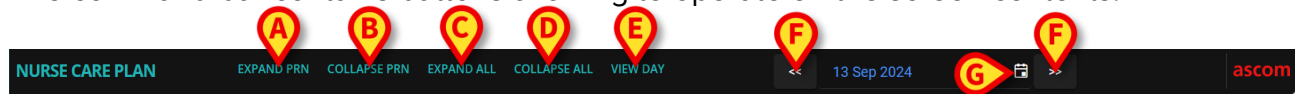
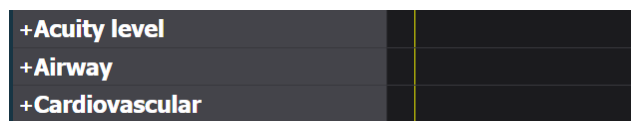

Fig 53
Fig 54
The **Expand PRN** button (Fig 53 **A**) shows all the PRN (“Pro Re Nata”) activities (described in section 3.5.4, hidden by default).
The **Collaps PRN** button (Fig 53 **B**) hides all the PRN activities.
The **Collapse All** button (Fig 53 **D**) hides all the activities (or all the activities and the problems, depending on configuration). Only the functional areas are listed on the activities list, as in Fig 54 (or the functional areas and the problems, depending on configuration).
The **Expand All** button (Fig 53 **C**) shows all the hidden items (either activities or activities and problems, depending on configuration).
The **Day/Shift switch** (Fig 53 **E**) allows to change the time range displayed on a single screen. If the “Shift” display mode is selected, meaning that a single shift is displayed, a **View Day** button allows to switch to “Day” mode, where the 24 hours of the selected day are displayed on a single screen. Vice versa, if the “Day” display mode is selected, a **View Shift** button allows to switch to “Shift” mode.
The **left and right arrows** (Fig 53 **F**) display the previous (left) and following (right) day or shift, depending on the current display mode.
**Calendar selection** button. The button indicated in Fig 53 **G** shows the date currently displayed. It is possible to select a different date. To do that: